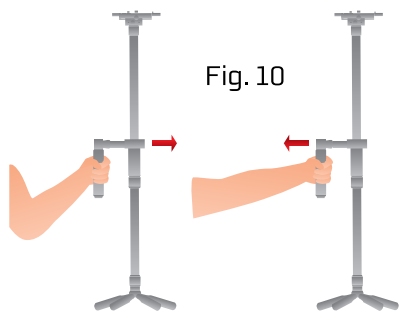

Fig. 10
5. Once the unit is balanced, remove it from the tripod and repeatedly jerk it back and forth and up and down. The stabilizer should remain level, no matter what direction you jerk it. If it swings out of alignment, return the stabilizer to the balancing stand and readjust it. (Fig. 10)